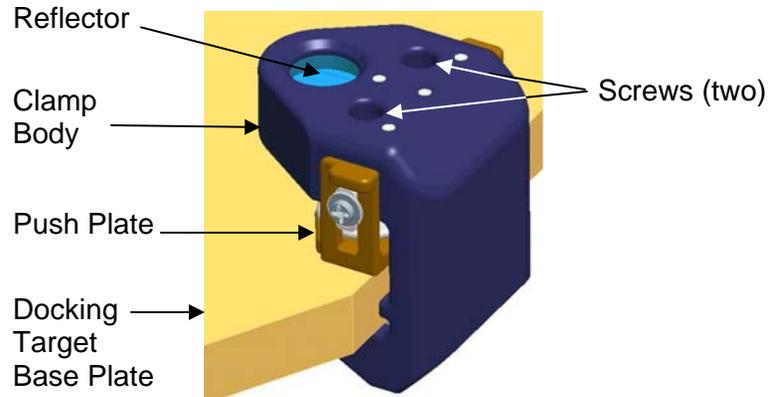

Figure 1.- Edge Clamp Reflective Element.
Refer to Figure 1.
- 2.4 Lift push plate, slide Edge Clamp onto Docking Target Base Plate. Refer to Figure 1.